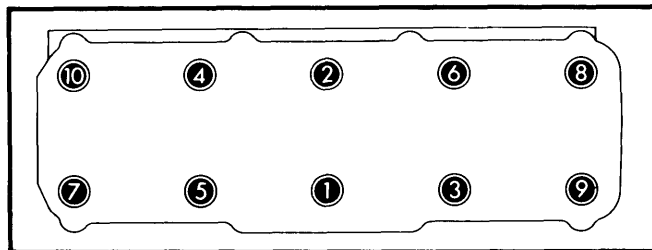

Fig. 1 Cylinder Head Tightening Sequence
4) When replacing head gasket make sure gasket thickness is the same by matching notches on side of head gasket. Markings on head gasket must face up. Reverse removal procedure. To install, ensure that cylinder head and block mating surfaces are clean. Install cylinder head gasket dry, using no sealant. Install bolts 8 and 10 first to center cylinder head. Tighten head bolts in sequence illustrated in Fig. 1.